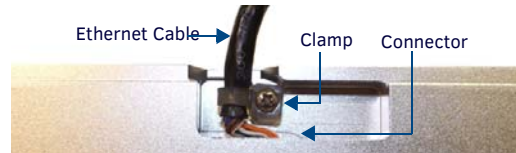

FIG. 3 BOTTOM OF THE MXT-1001
In installations where you wish to conceal the Ethernet cable, a hole at least 1.00" (2.54 cm) in diameter is required in the surface to allow passage of the female RJ45 connector (FIG. 3).
2. Remove the clamp holding the Ethernet cable (FIG. 3).